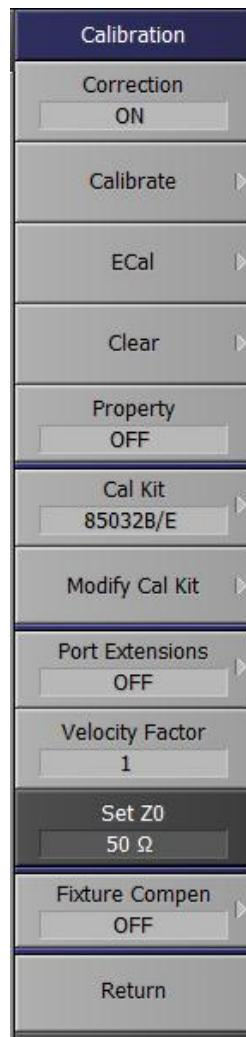

Fig. 17 - E5061B Calibration menu, where Z_0 is highlighted.
Step 2: Set > **Rs**, by specifying under **Z₀** (as shown by Figure 17)
Step 10: Set > **Rs**, 通过在Z0下指定 (如图17所示)